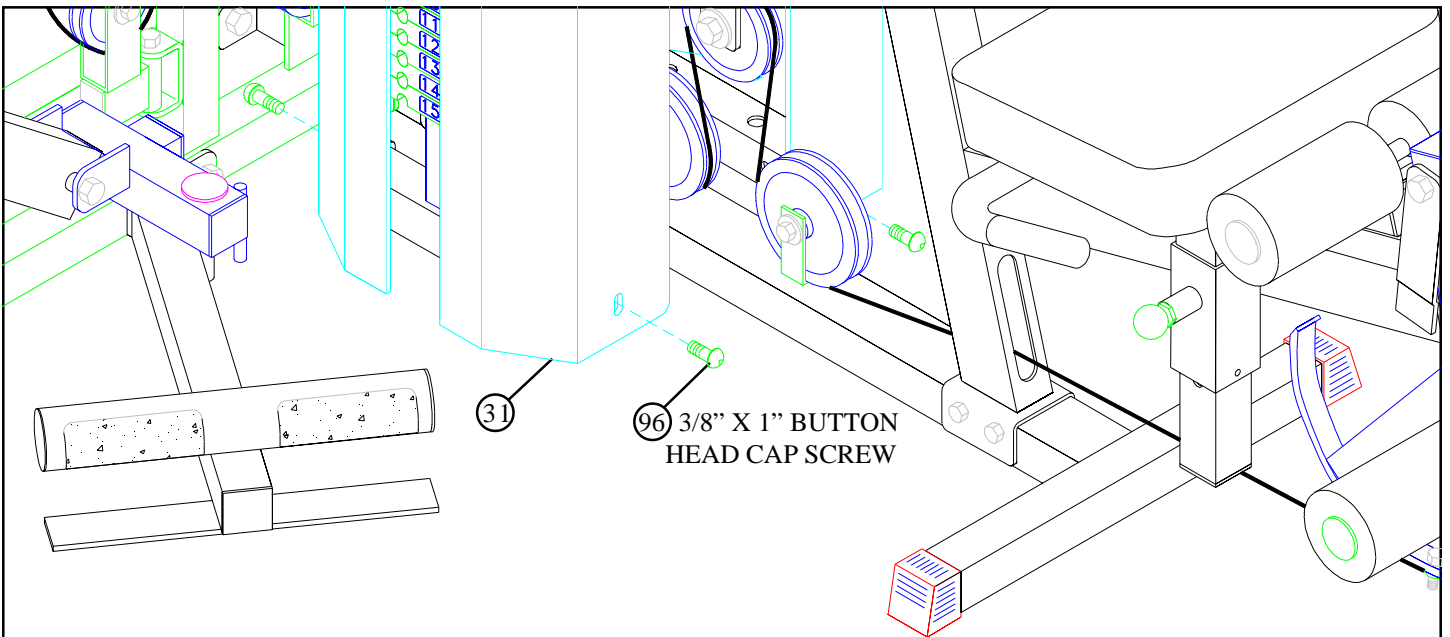

FIGURE 55
- **SECURELY** attach the bottom of the front SHROUD (31-with label) & rear SHROUD (31) to the TOP BOOM (17) using four 3/8" X 1" BUTTON HEAD CAP SCREWS (96). See FIGURE 55.